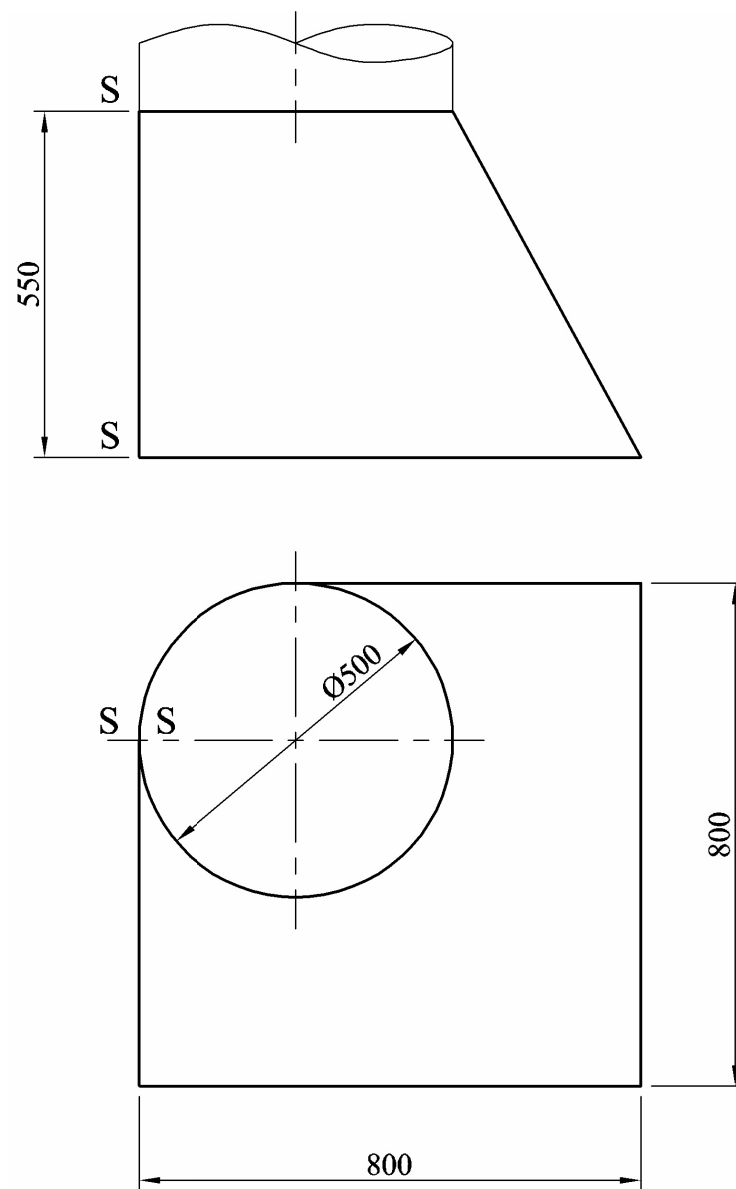

Fig. 3 / Fíor 3
3. The elevation and plan of a sheet metal transition piece, which is connected to a circular duct, are shown in Fig. 3.